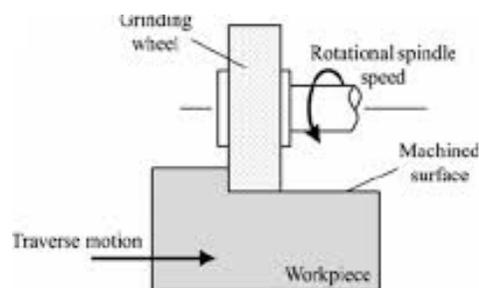

Figure Grind-5: a travers feeding
10. As in figure Grind-5. automatically and traversal, feed the grinding wheel toward the workpiece surface.